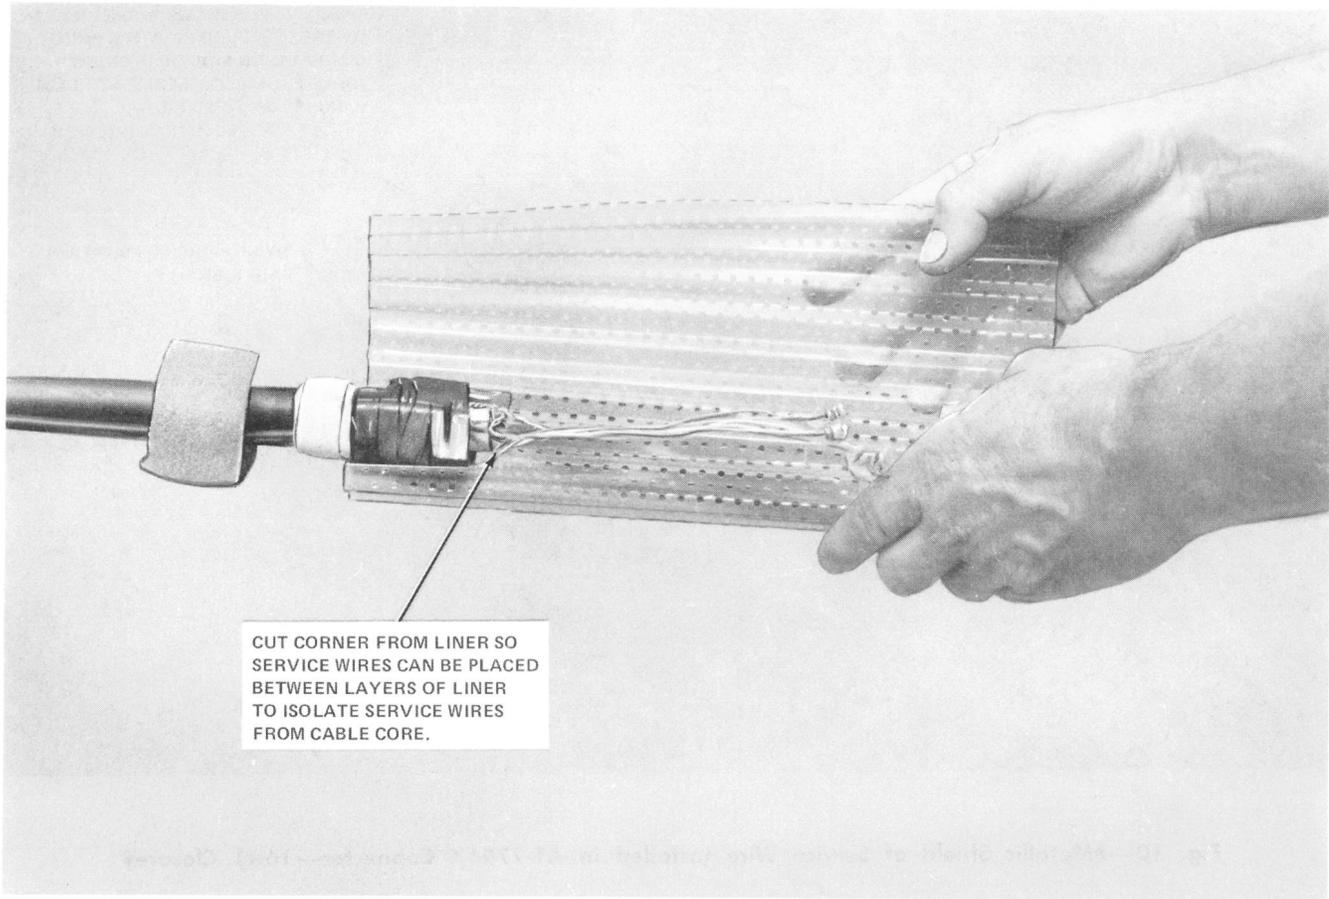

Fig. 12—Spliced Conductors Isolated From Cable Core—16A1 Closure
5.04 Place spliced conductors between layers of the liner to isolate spliced pairs from the cable core as shown in Fig. 12.